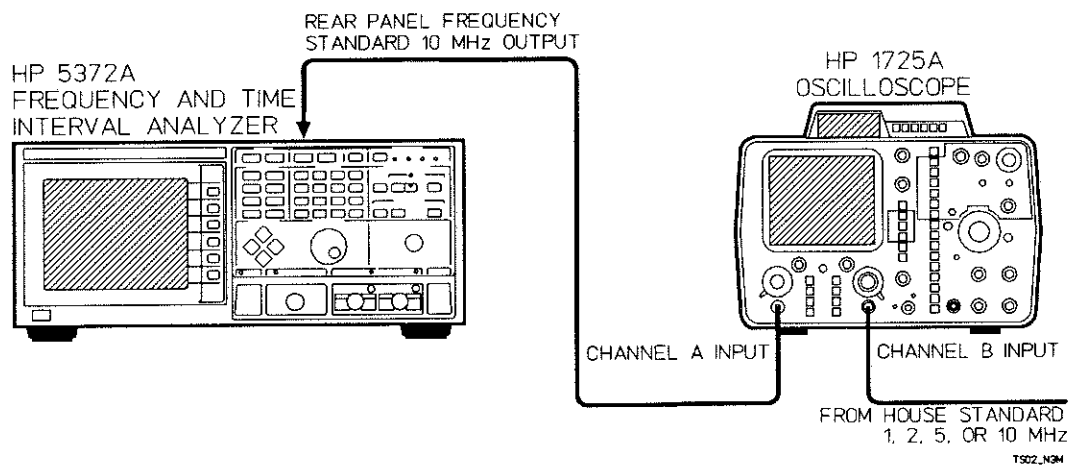

Figure 3-2. A15 Oven Oscillator Adjustment Setup
**Test Setup:** See Figure 3-2.